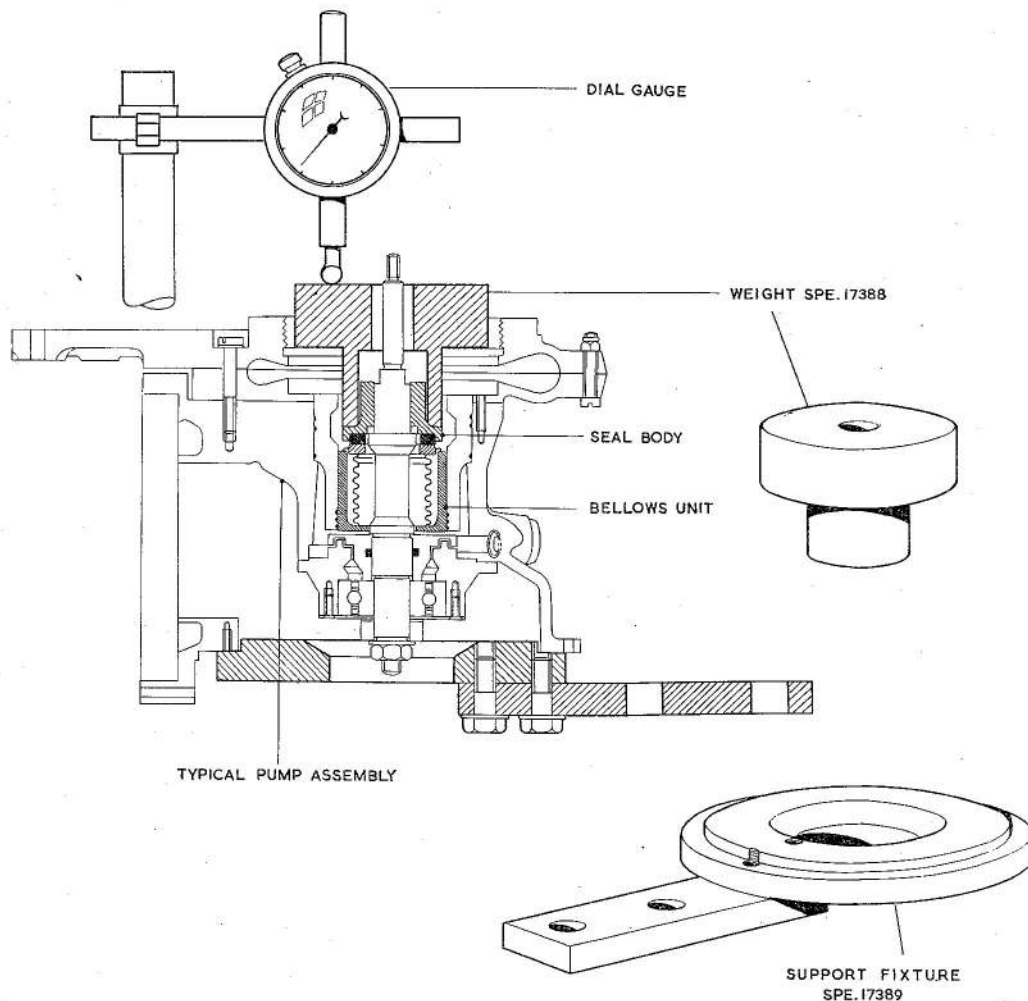

Fig. 10. Bellows gland loading fixture
(3) Retain the shaft with a temporary distance piece (107), washer (109) and locknut (108). If the distance piece (107) is not available fit a scrap bevel gear (5).
33. (1) Place the bellows seal body assembly (148) in position on the pump shaft. Using the tools illustrated in fig. 10, determine the thickness of shims (147) required to give the bellows gland the correct loading of 18 ounces by proceeding as follows:—